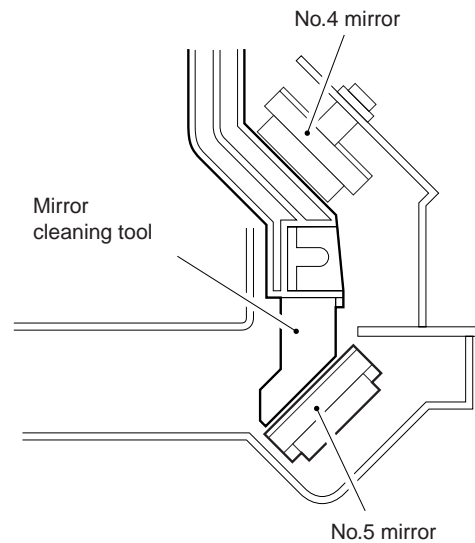

Figure 3-411
- 3) Push the mirror cleaning tool against the No. 5 mirror as shown in Figure 3-411, and clean the lens by sliding it back and forth.